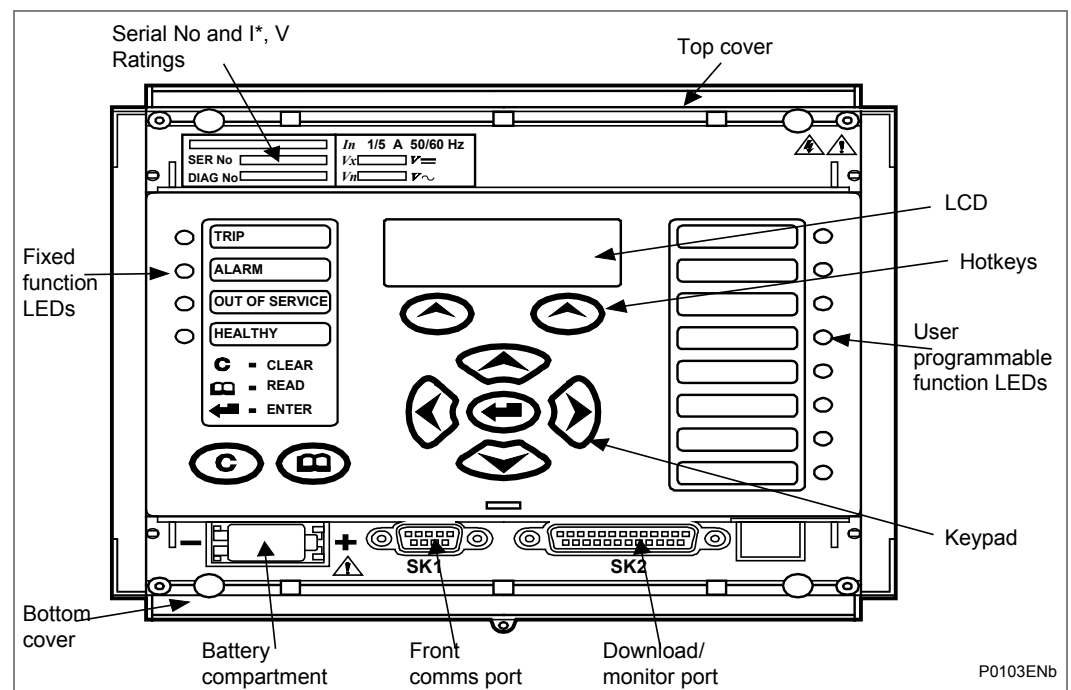

Figure 1 - Relay front view (40TE case)
**Note:** Figure 1 shows the P445 40TE case layout. The exact layout depends on the model configuration and case size.